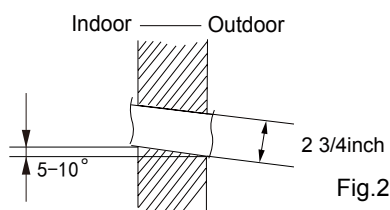

Fig.2
(2) Open a piping hole with the diameter of 2 3/4 inch on the selected outlet pipe position. In order to drain smoothly, slant the piping hole on the wall slightly downward to the outdoor side with the gradient of 5-10°. (As show in Fig.2)